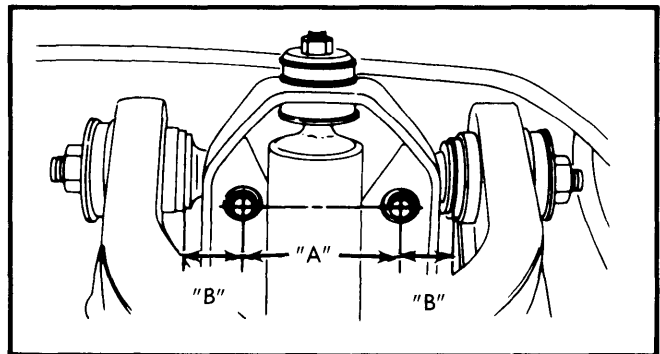

Fig. 4 Upper Control Arm Spindle Dimensions
4) Install upper control arm to frame. Tighten upper control arm spindle with camber adjusting shims. After fitting, check dimensions "A" and "B" shown in Fig. 4. Dimension "A" should be 5.34-5.42" (135.6-137.6 mm), "B" should be 1.114" (28.3 mm).